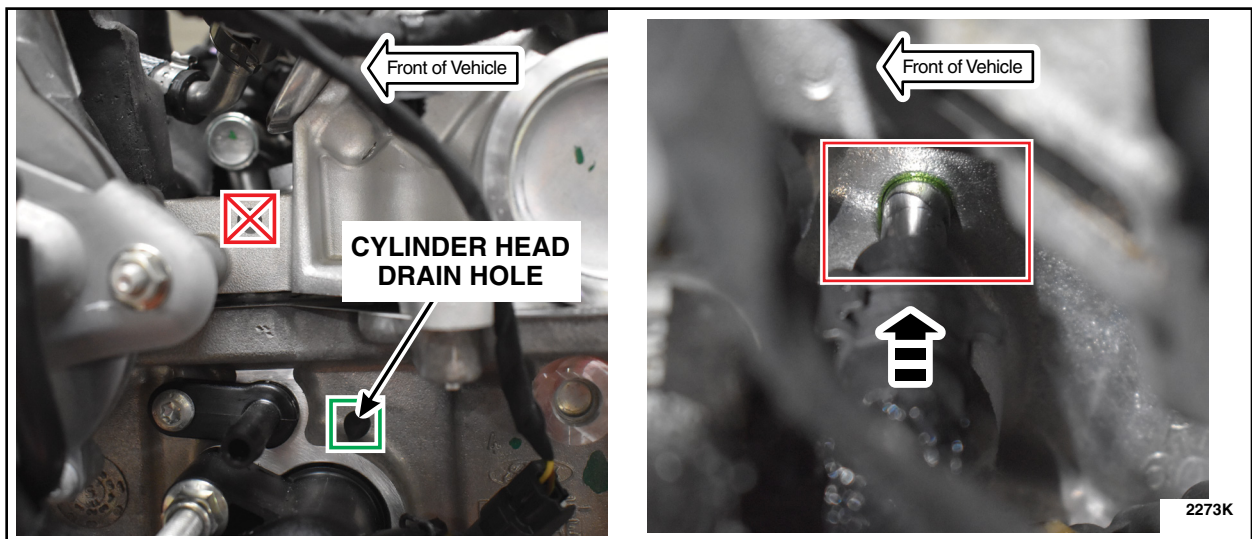

FIGURE 10
13. Insert tube into the cylinder head drain hole shown. See Figure 10.